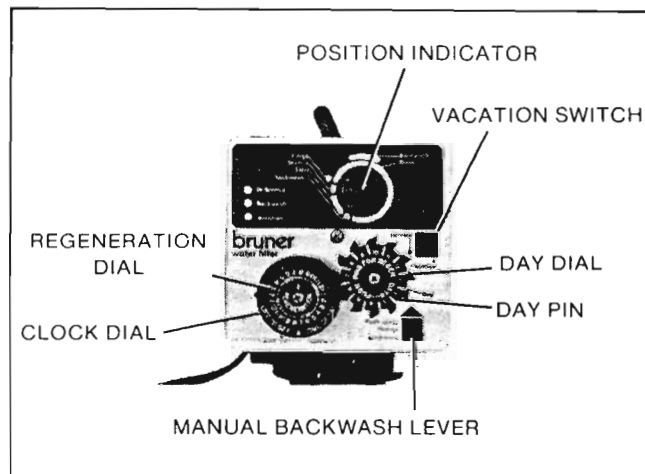

Figure 5. Control Valve
3. Turn the position indicator (see Figure 5) to SERVICE. To do this use a crescent wrench or the optional wrench, part no. A-1872-1, to rotate the position indicator counterclockwise until the arrow on the indicator points to SERVICE.
The control valve automatically cycles the filter on a predetermined schedule and regulates the duration of the various backwash steps. To adjust the control valve refer to Figure 5 and proceed as follows: